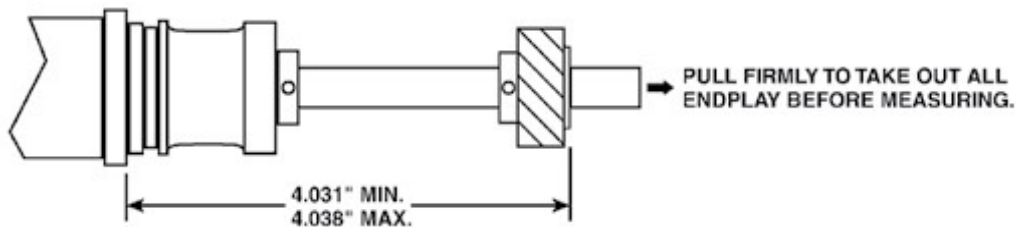

Fig. 1
STEP 6: Pull distributor shaft out of distributor housing to eliminate endplay (see Fig. 1).
STEP 7: Check location of distributor gear on distributor shaft (see Fig. 1). If it is not in the correct location, use a press to move the gear to the correct location.
NOTE: It is important that the dimensions called out in Fig. 1 are maintained while drilling.
STEP 9: Insert roll pin and check dimensions (see Fig. 1).